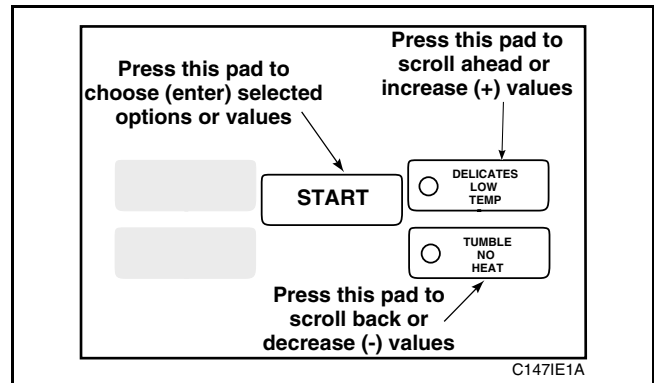

Figure 78
- Press the LOW TEMP (+) pad or the NO HEAT (-) pad to increase or decrease the current three-digit number to the desired three-digit number selected from Chart 9, *Figure 78*.